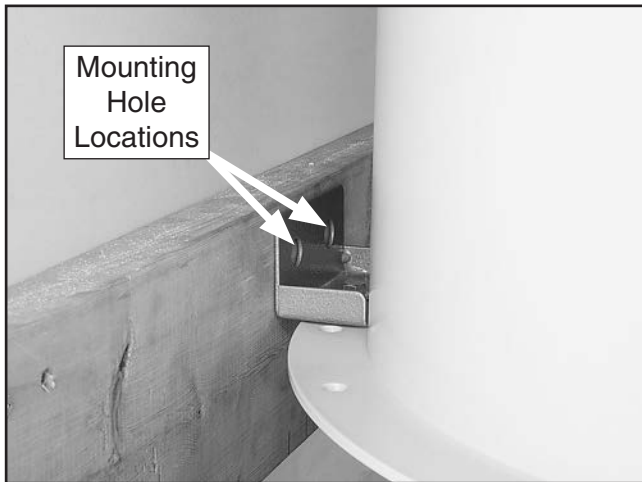

Figure 13. Intake barrel brace positioned to mark the mounting holes.
- Place the intake barrel brace in position and mark the location of the mounting holes (shown in **Figure 13**) with a small pencil, nail, or push pin.